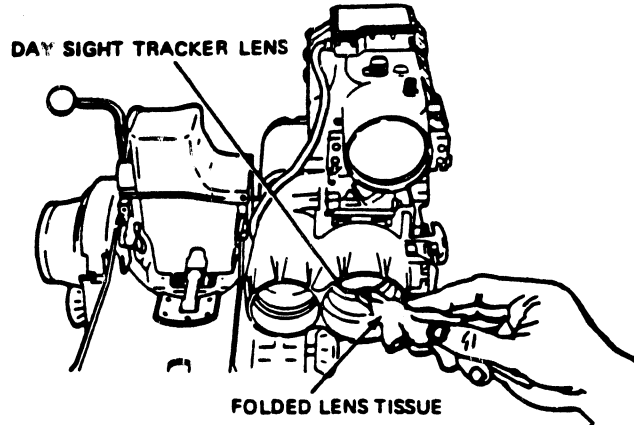

Fig 5-5. Cleaning day sight tracker (under special conditions).
2. Pat the lens surface with a clean absorbent wiping rag (fig 5-5). **DO NOT RUB THE LENS.**